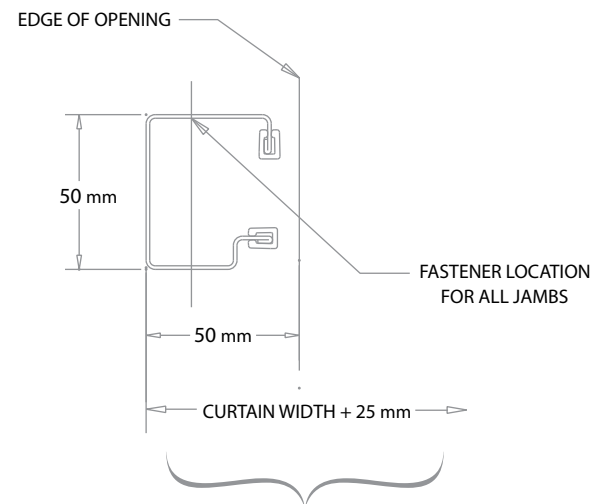

FIGURE 7
- The guides should be mounted centered about the opening and spaced curtain width + 25 mm apart measured from back of guide to back of guide. *See figure 7.* Both guides must be plumb.